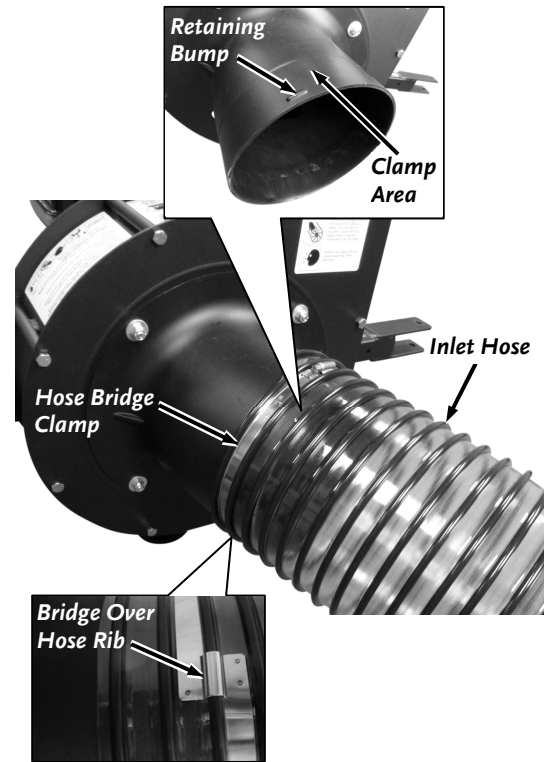

Figure 16
1. Using a Flat Head Screwdriver or 9/32" Wrench, loosen the Hose Bridge Clamp on the end of the Hose, slide the Hose onto the Housing neck, and tighten the Hose Bridge Clamp very tightly (**Figure 16**).